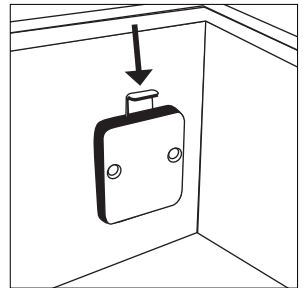

Figure 3
3. Depress cable release button and hold down (Figure 3).